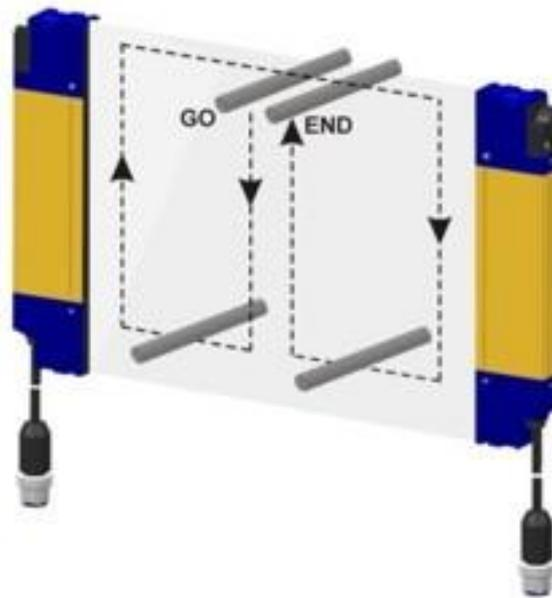

Fig 22 - First installation check with Test Piece
- L'ESPE remains in Safe State (OSSD led lit RED) intercepting the beams along the detection zone using the specific test piece, following the **Fig 22 - page 28** scheme (cfr.**ACCESSORIES page 57**).